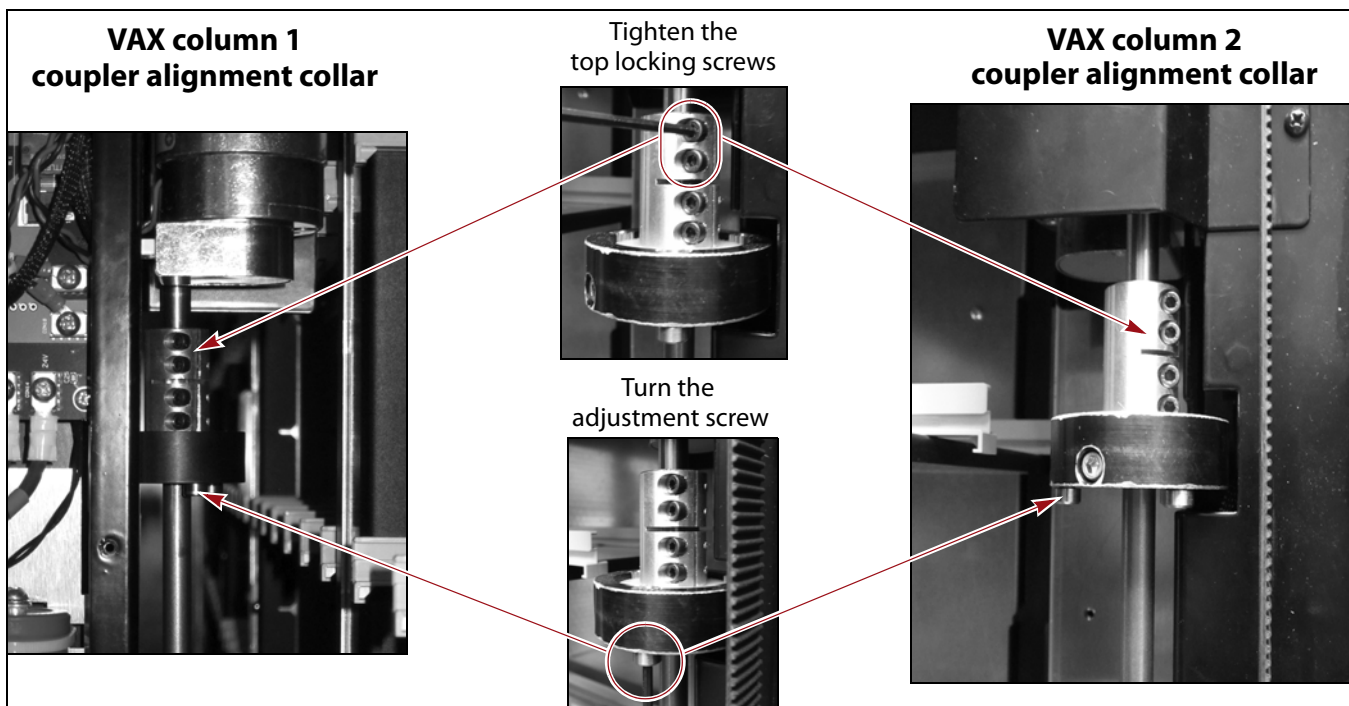

Figure 69 Adjust the VAX column alignment.
- b. Locate the coupler alignment collar (see Figure 69 on page 47) on the VAX column.